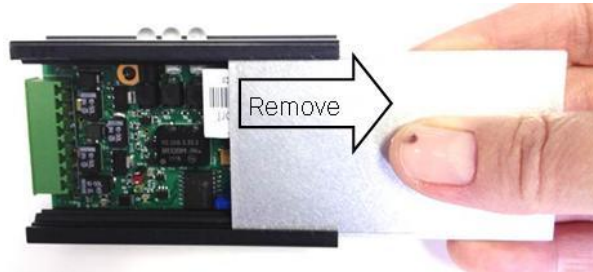

Figure A-10. Remove the aluminum plate
4. Reference Figure A-10 below. With the LEDs facing away from you, slide the aluminum plate off to the right side of the assembly to expose the circuit board.